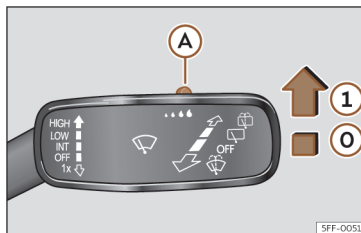

Fig. 104 Windscreen wipers lever: adjust the rain sensor (A).
Push the lever to the desired position >>> **Fig. 104**.
- ① Rain sensor on; automatic wipe if necessary.
When the ignition is switched off and then back on, the rain sensor stays on and starts operating again when the windscreen wipers are in position >>> **Fig. 104** ① and the vehicle is travelling at more than 16 km/h (10 mph).